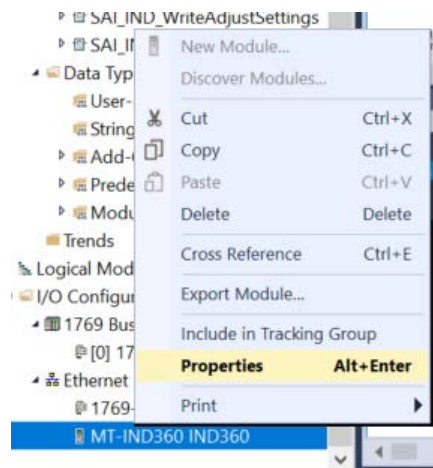

Figure 4-1 Select Properties
- A:** No. The AOI instance can be named anything as long as the name is unique. They must be unique so that if we are using multiple of the same AOI, we can distinguish between them in the code. See Figure 4-1 for an example of an AOI instance name that does not match the AOI name but is still valid.